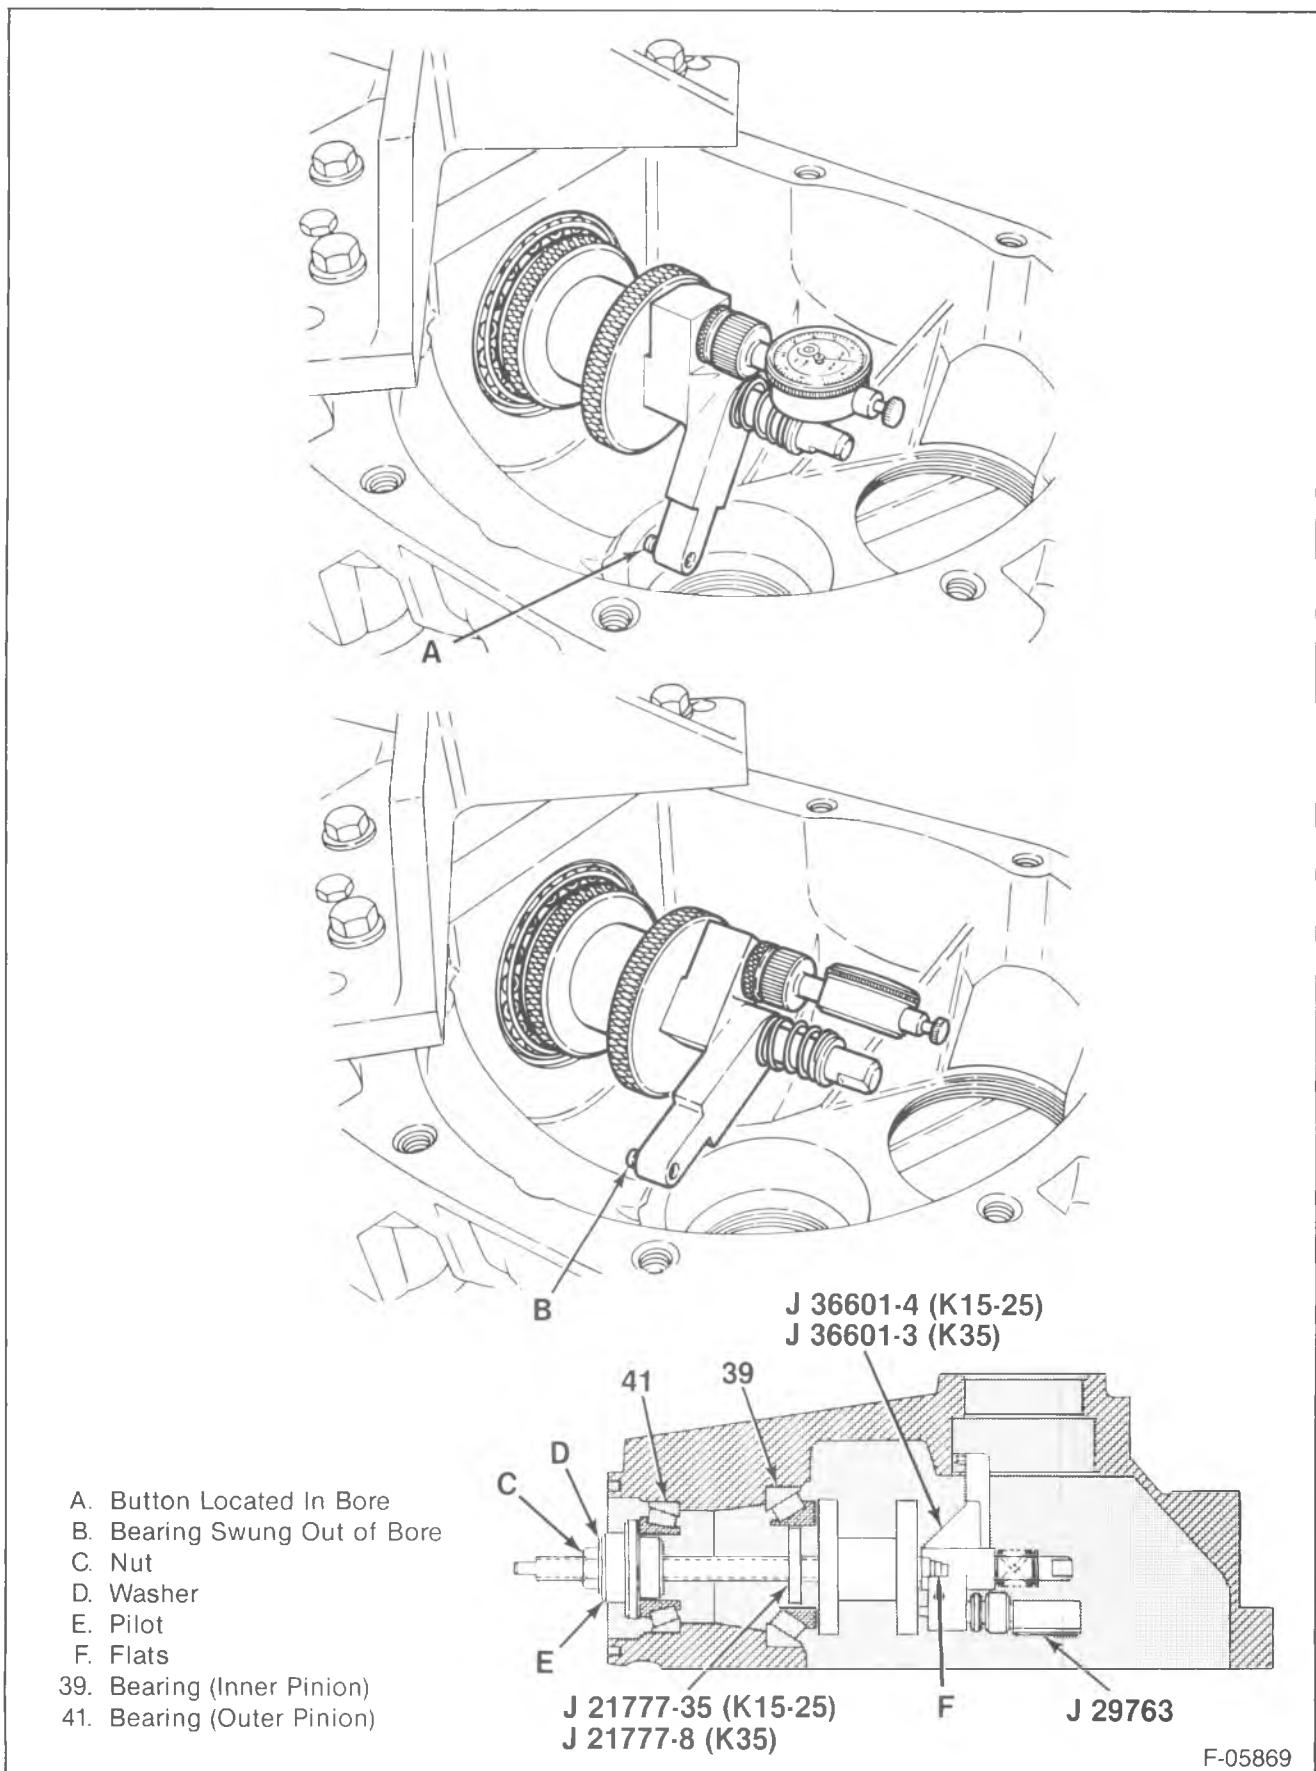

Figure 22—Measuring Pinion Depth
2. Pinion depth is adjusted by selecting a shim (38) of the proper thickness.
11. Set the button of J 36601 on the differential bearing bore (figure 22).
13. After the ZERO setting is obtained and verified, grasp the gaging arm by the flats and move the tool button out of the differential side bearing bore (figure 22). Record the dial indicator reading.